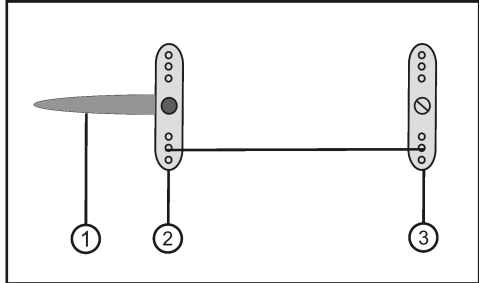
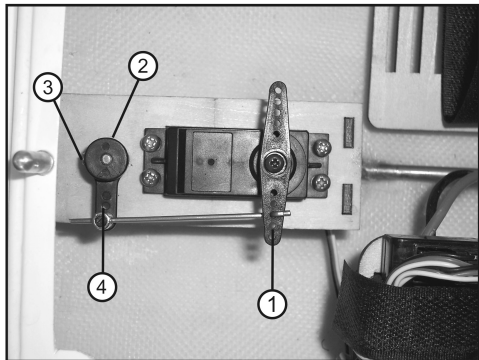

Figure 3a
Figure 3c
- Figure 3a shows symbols for the rudder (1) and the rudder linkage lever (2), as well as the servo linkage lever (3).
- Attach the „Z“ of the linkage rod to the servo linkage lever (figure 3c, item 1).
Place the rudder linkage lever (figure 3c, item 2) on the rudder linkage as shown in figure 3c.
- Align the rudder, rudder linkage lever and servo linkage lever (see figure 3c) as shown in figure 3a.
Attach the rudder linkage lever to the rudder linkage with a hexagon socket wrench (figure 3c, item 3).
Shorten the linkage rods at the rod connection (figure 3c, item 4) so that the linkage is possible as shown in figure 3a.